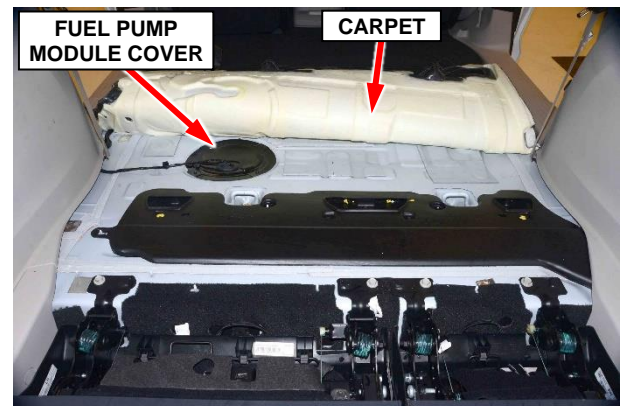

Figure 5 – Fuel Pump Module Access Cover
6. Fold the floor carpet forward to expose the fuel pump module access cover (Figure 5).